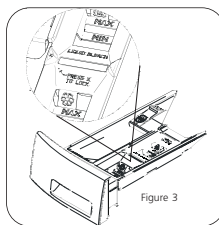

Figure 3
- Remove the insert from the bleach and fabric softener compartments. (Figure 3)